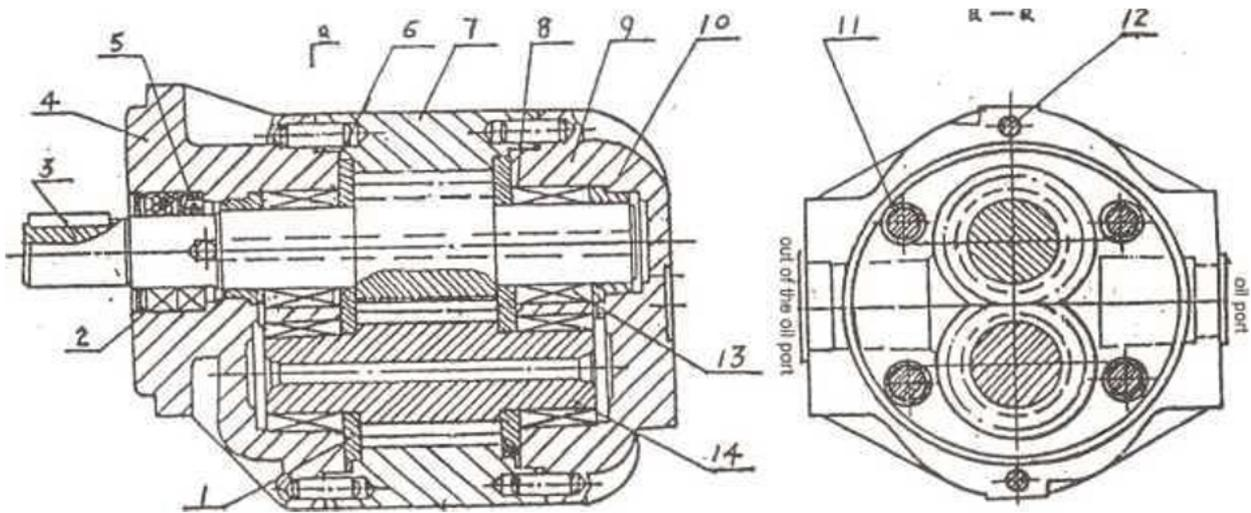

Figure 2-15: Illustration for Gear Pump Structure
3) Gear pump (Figure 2-15): the working device's hydraulic system and the steering hydraulic system share one common gear pump, with the operating pressure as 16 Mpa and flow as 40ml/r.
The frame is the base for connection and installation of all the machine's parts, consisting mainly of front frame and rear frame. Additionally, the rear frame is equipped with the rockers (see Figure 2-15). The front and rear frames are hinged with pin rolls. The front frame is positioned on the front axle and is allocated with the working devices. The rear frame is linked with rear axle through the rockers, where installed are the engine, torque converter, gear box, cab, control mechanism. The steering mechanism is used to keep the front and rear frames rotating around the jointed shaft. The rear frame and rockers are linked with pin rolls. The rocker can move up and down at 12° in line with the center of the jointed shaft so that it can travel on the uneven roads but still with fine stability.